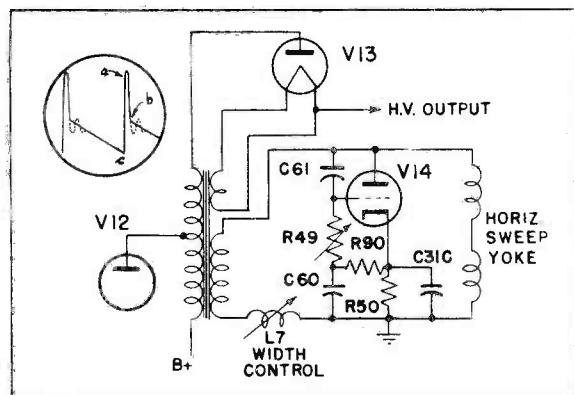

Fig. 6. Horizontal Sweep Output
6. HORIZONTAL SWEEP OUTPUT (See Figure 6)—The horizontal sawtooth voltage generated by the multivibrator, V11, is shaped and then amplified by a Type 807 tube, V12. The output of this tube is coupled to the horizontal deflection yoke through an impedance matching transformer, T9. An oscillatory voltage, as shown in the dotted line in the wave shape at the upper left of Figure 6, which results from the rapid retrace in transformer T9, is removed by the damping tube, V14. This tube is a triode Type 6AS7 and by its use the transient may be dampened, linearity controlled and the positive overshoot voltage retained for use in the high voltage supply. The linearity of the horizontal trace is controlled by varying the voltage wave shape applied to the grid of V14 by potentiometer R49. The horizontal size is varied by the adjustable iron core inductance, L7, which is in series with the output to the yoke.
8. HIGH VOLTAGE SUPPLY (See Figure 6)—The high voltage is derived by making use of the inductive "kick" voltage produced during retrace in the horizontal output transformer
This "kick" voltage is shown in the wave shape shown as a-b in Figure 6. This voltage is generated in the primary winding and is further increased by an additional winding added to the transformer which connects to the rectifier tube plate of V13. The rectifier tube, V13, is a Type 8016 which derives its filament voltage from the horizontal sweep transformer T9 by a single turn around the transformer. Because of the high frequency which is rectified, a 500 mmf capacitor is more than sufficient for filtering purposes.